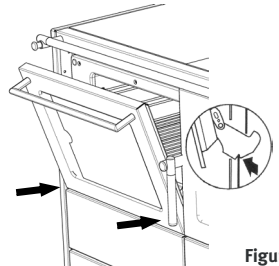

Figure 39
- Hold the oven door with both hands at the sides and insert the hinges into the corresponding openings in the oven. The hinge will engage (Figure 39).